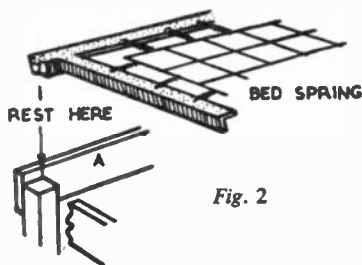

Fig. 2
the angle at which they are cut can be gauged by laying them across the back and marking off. The foot end is covered by a piece of $\frac{1}{4}$ in. hardboard 37ins. by 15ins. It will be seen from this illustration that the bed spring rests upon the tops of posts (D). This is shown clearly in Fig. 2.